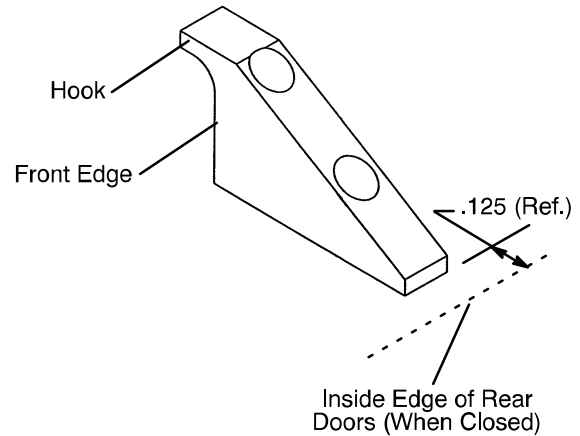

Figure 4 - Safety Hook
3. Center the safety hook (Figure 4) on the cot safety bar. Be sure the hook is facing the front of the vehicle.